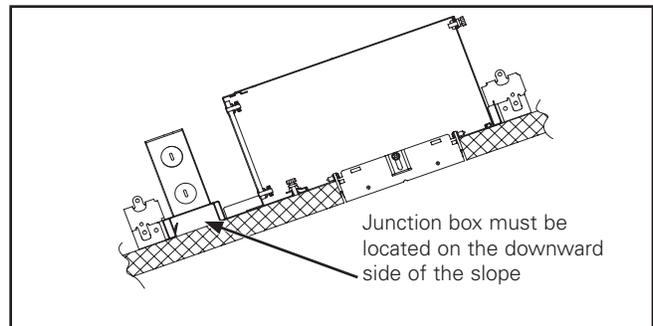

Figure 12.
**Slope Ceilings - P408ICAT Housing Platform Only (Figure 12.):** When used in slope ceiling applications, the junction box must be located on the downward side of the slope.